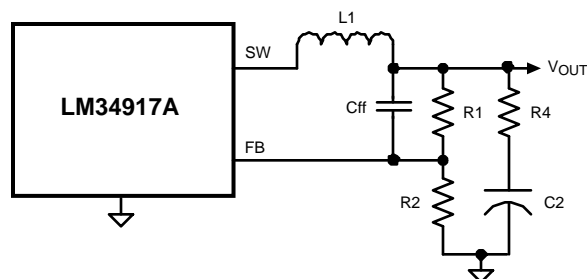
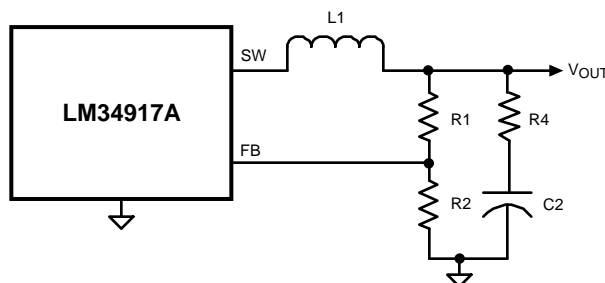
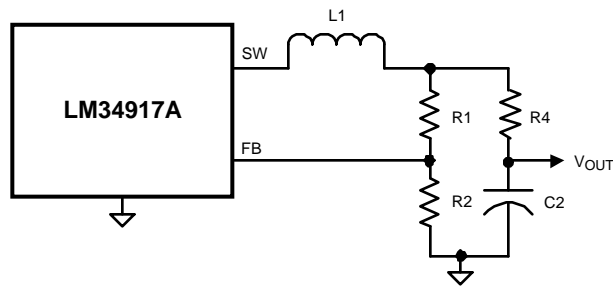

Figure 18. Reduced Ripple Configuration
Figure 19. Maximum Ripple Configuration
Figure 20. Alternate Minimum Output Ripple Configuration
a) Alternate #1: In Figure 18, R3, C7 and C8 are removed, and Cff and R4 are installed, resulting in a higher ripple level than the circuit of Figure 15. Ripple is created at V_{OUT} by the inductor's ripple current passing through R4. That ripple voltage is AC coupled to the FB pin through Cff, allowing the minimum ripple at V_{OUT} to be set at 25 mVp-p. The minimum ripple current amplitude ($I_{OR(min)}$) is calculated by re-arranging Equation 11 using $t_{ON(max)}$ and $V_{IN(min)}$. The minimum value for R4 is calculated from:
b) Alternate #2: In Figure 19, R3, C7 and C8 are removed, and R4 is installed, resulting in a higher ripple level than the circuits of Figure 15 and Figure 18. Ripple is created at V_{OUT} by the inductor's ripple current passing through R4. That ripple voltage is coupled to the FB pin through the feedback resistors (R1, R2). Since the LM34917A requires a minimum of 25 mVp-p ripple at the FB pin, the ripple required at V_{OUT} is higher than 25 mVp-p by the gain of the feedback resistors. The minimum ripple current (I_{OR(min)}) is calculated by re-arranging Equation 11 using t_{ON(max)} and V_{IN(min)}. The minimum value for R4 is calculated from:
c) Alternate minimum ripple configuration: The circuit in Figure 20 is the same as that in Figure 19, except the output voltage is taken from the junction of R4 and C2. The ripple at V_{OUT} is determined by the inductor's ripple current and C2's characteristics. However, R4 slightly degrades the load regulation. This circuit may be suitable if the load current is fairly constant. R4 is calculated as described in Alternate #2 above.